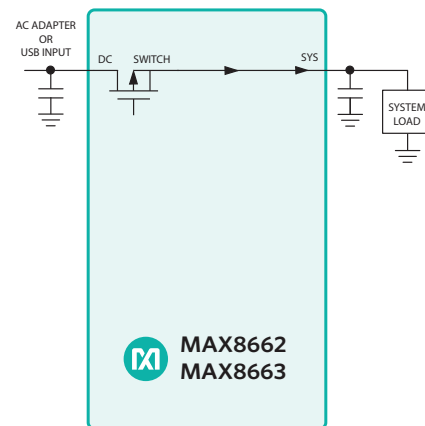

Figure 10. Power Path With External Supply, But No Battery
- 3) When an external power input is connected and there is no battery, the system is powered from the external power input (Figure 10).